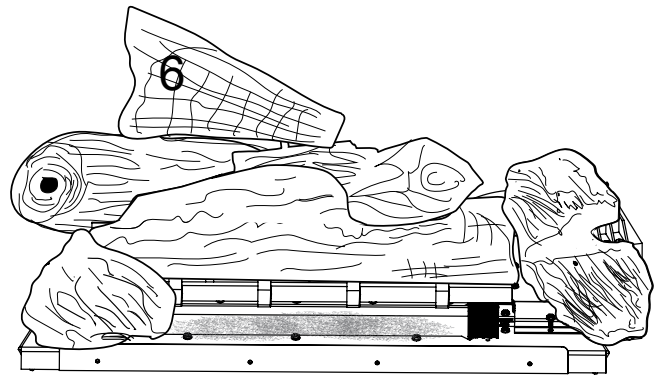

Figure 5.16 - Log #6 Placement
7. Hold log #6 with the flat end toward the bottom. Place log #6 by positioning the two pin locator holes on the bottom of the log over the two pins on log #4 and log #5. See Figure 5.16.